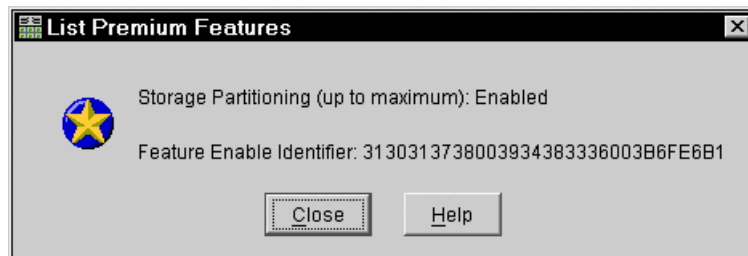

Figure 7-5 List Premium Features
7. You can verify the premium features key you installed. If your key states that storage partitioning (up to maximum) is enabled, then an update from Storage Manager v7 to Storage Manager v8 will enable all 64 storage partitions. However, if you find that, for example, storage partitioning (up to eight) is enabled, then you have to contact IBM level 2 support to obtain a new key to support 64 storage partitions. The premium features list is shown in Figure 7-5. See also 4.6.10, “Handling premium features” on page 127, for instructions on obtaining a new feature key.